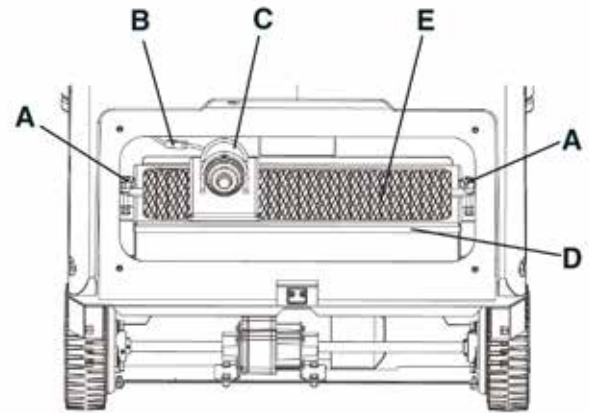
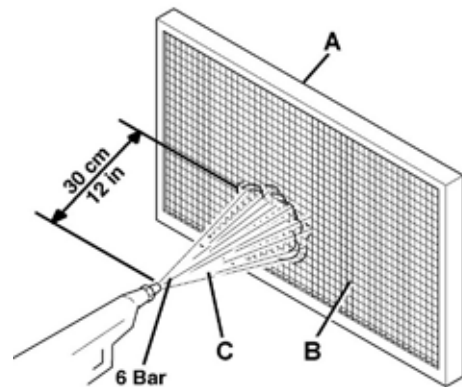

Figure9
Figure10
- 1) Drive the machine on a level floor and release the pedal (2) and stop the machine.
- 2) Turn the ignition key (71) to "0".
- 3) Disengage the hook (29) by pulling its lower end.
- 4) Remove the hopper (28) by using the handle (30) and by using hand and by disengaging it from the inner guides.
- 5) Unscrew the knobs (37) and remove the filter compartment cover (36).
- 6) Loosen the knobs (A, Fig.9).
- 7) Disconnect the connector (B, Fig.9) from the filter shaker motor (C).
- 8) Remove the dust filter fastening frame (D, Fig.9).
- 9) Remove the dust filter (E, Fig. 9).
- 10) In an outdoor area, clean the filter by shaking it on a level and clean surface, tapping the side (A, Fig. 10) opposite to the wire gauze (B).
- Complete the cleaning procedure by using compressed air (C, Fig. 10) at maximum 6 Bar, blowing only from the side of the wire gauze (B), at a minimum distance of 11.8 in (30 cm).
- 13) Clean the rubber gasket (A, Fig.10) of the cover (36) and check it for integrity and efficiency; if necessary replace it.
- Install the filter (E, Fig. 9) with the wire gauze (B, Fig. 10) facing upwards.